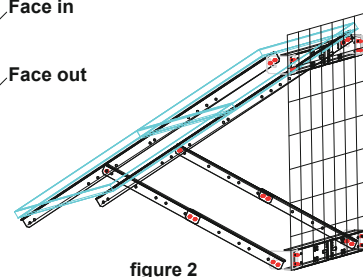

figure 2
**Step 3.** See figure 2 for wall, use at least 8 fastening points with wood screw, sheet metals, anchors or molly bolts (not included in kit).